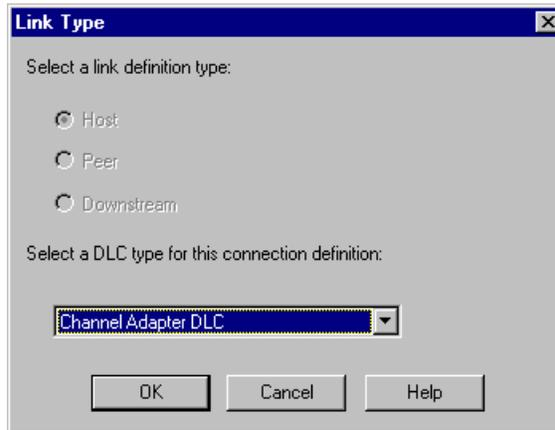
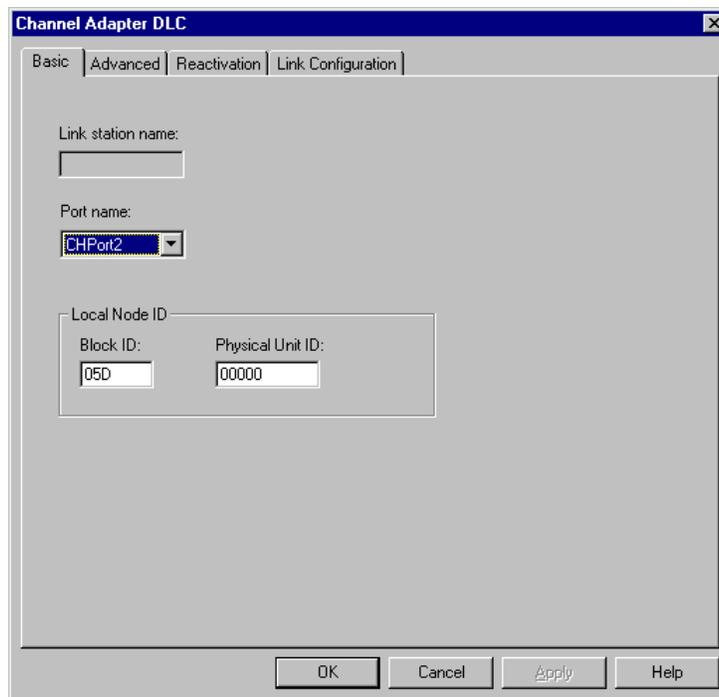

Figure 7-18. Link Type Selection
Figure 7-19. Basic Connection Configuration
If the channel adapter is the only device type defined, configuration will proceed to the Basic screen for the channel adapter (Figure 7-19). If more than one device type has been defined, a Link Type dialog box will display. Select the Channel type and click OK (Figure 7-18).
2. From the Basic host connections screen (Figure 7-19) select the Port name you will to use. Remember that the Port name is unique for each adapter, so selecting a Port name is the same as selecting an adapter. The Local Node ID for the port will display. It will default to the Node Id defined for this Communications Server (defined when configuring the Node). There is no need to change it. Click on the Advanced tab to continue.